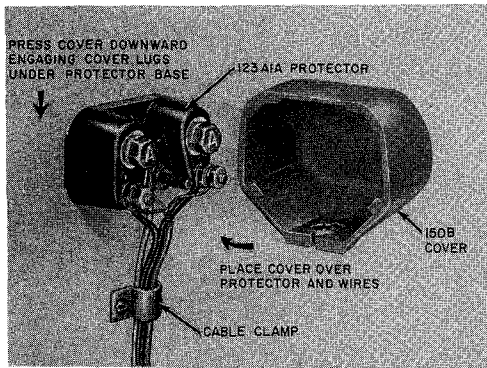
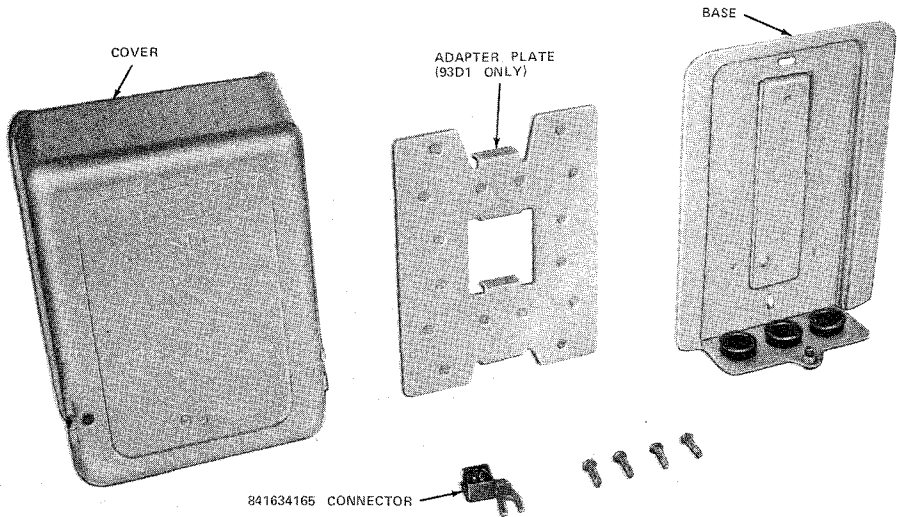
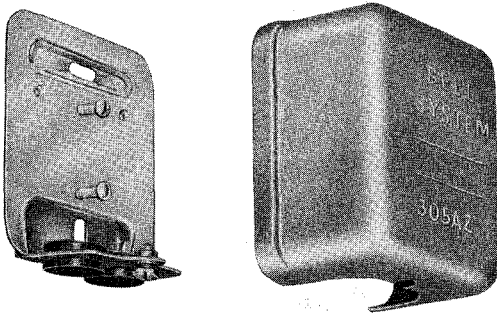
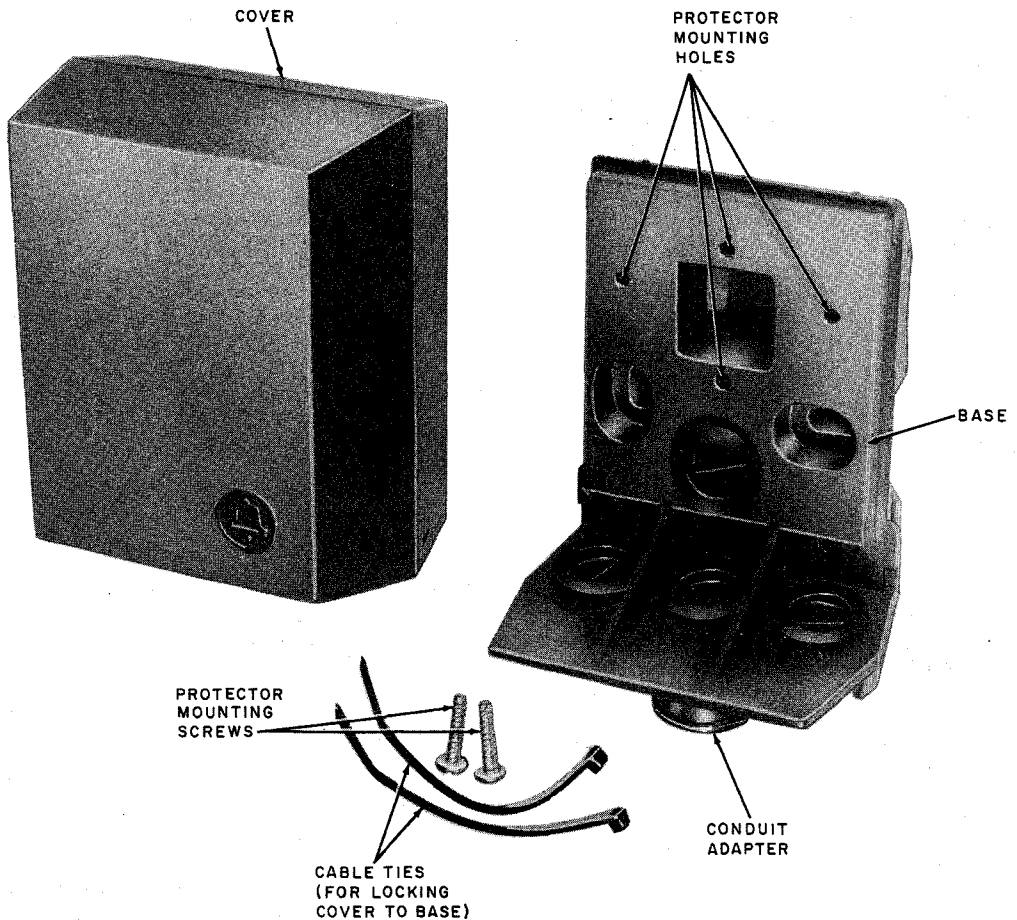

Fig. 19—150B Cover
Fig. 20—93C (MD) and 93D (MD) Protector Mounting
Fig. 21—305A2 (MD) Protector Mounting
Fig. 22—B Customer Service Closure
3.26 Where the 123- or 128-type protectors are installed outside, a 150B cover (Fig. 19) is installed over the protector, or the protectors may be housed in a 93D1 (MD) (Fig. 20), a 305A2 (Fig. 21) protector mounting, or a B customer service closure (Fig. 22). The 150B cover may be used to cover protectors installed indoors when a protective covering is required.